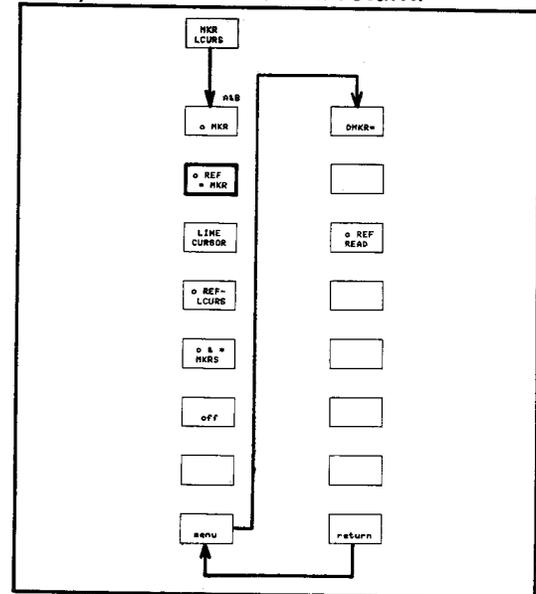

Figure 3-87. o REF - * MKR menu
1. Press the **MKR/L CURS** key. The **MKR/L CURS** menu will be displayed in Menu Area as shown in Figure 3-87.
3. Press the 'menu' softkey. The **o REF- * MKR** menu will be displayed as shown in Figure 3-87.